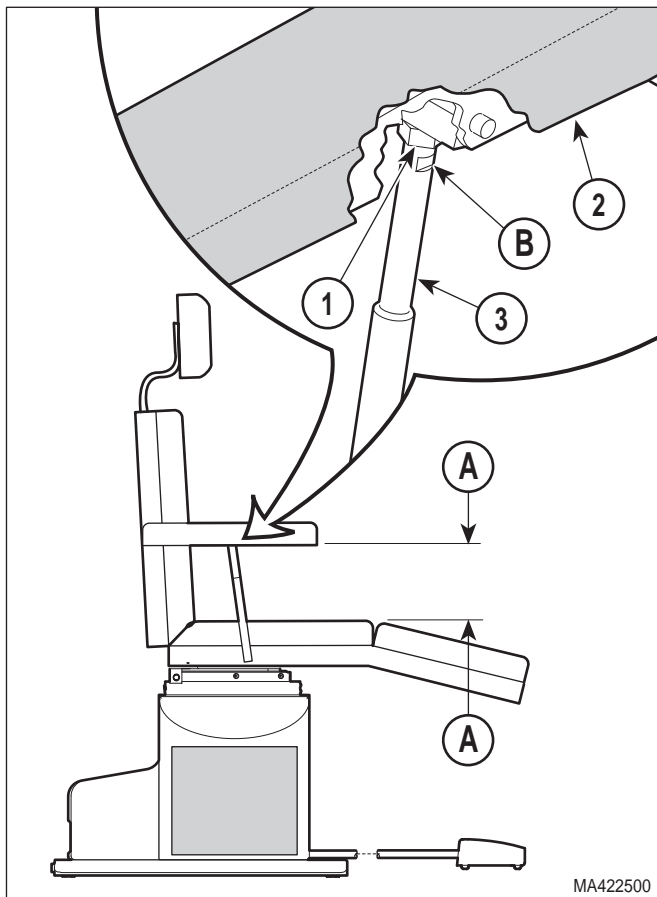

Figure 4-31. Reclining Arm Adjustment
- (3) Loosen jam nut (1, Figure 4-31) on reclining arm (2).